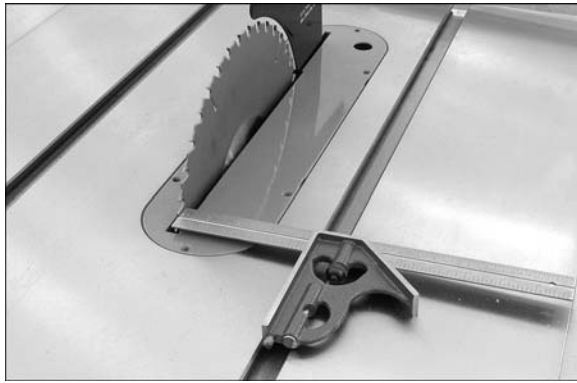

Figure 18
3. Use the right T-slot as a shoulder for a combination square. See Figure 18.